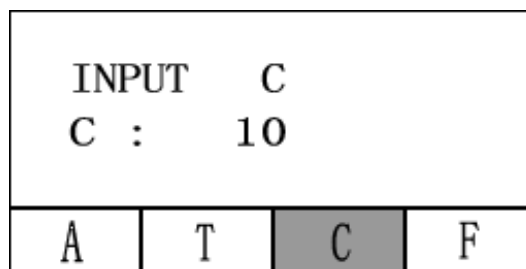

Fig. 4-6
Step 3, Input the Conc. following the guide, adjust by up and down key followed with ENTER to confirm. (Fig. 4-6)